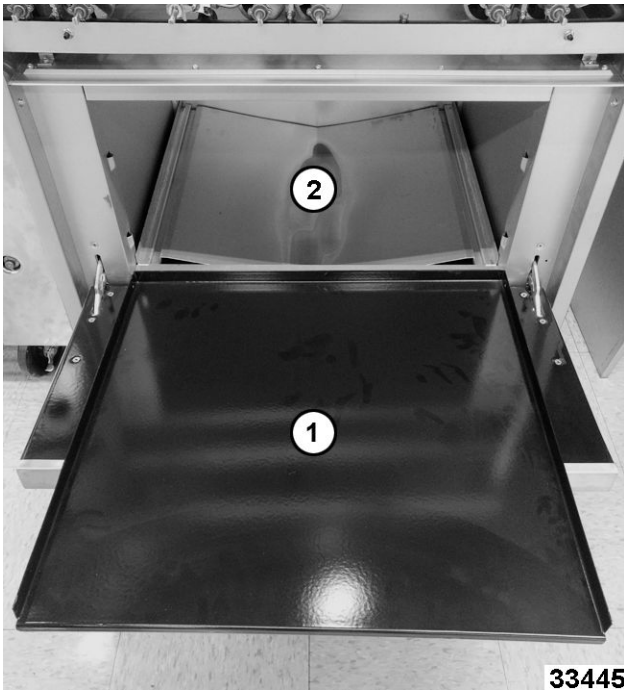

Fig. 7
2. Lift cavity bottom panel (1, Fig. 7) and slide out.
3. Remove V baffle (2, Fig. 7).